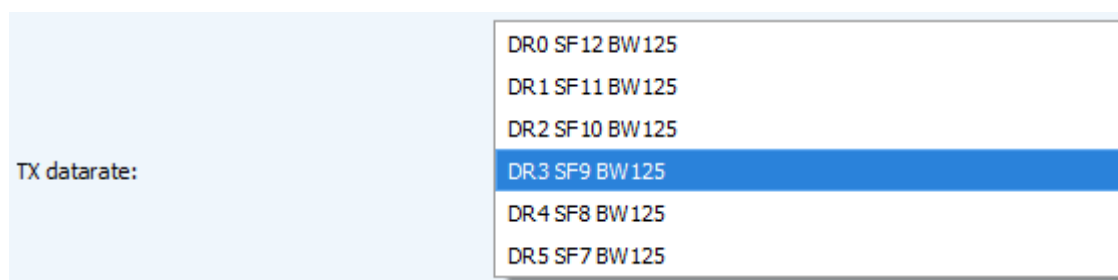

Figure 22 — Choice of the TX datarate
3.5.2.9 «TX datarate» (not displayed in the "Simple" mode) – the device transmission datarate at which it will transfer packets to the LoRaWAN network (fig. 22). This speed can be changed by the network server if the ADR algorithm has enabled.